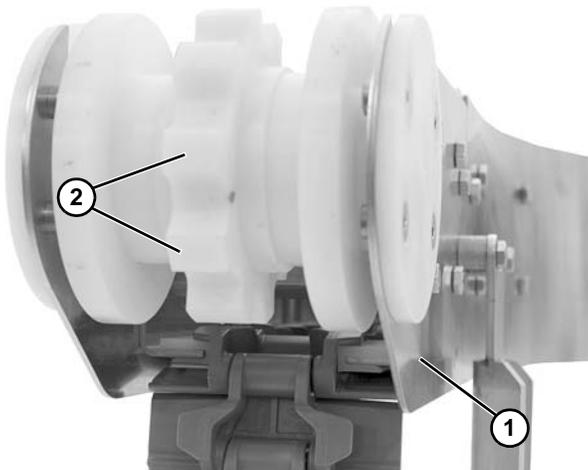

Figure 11
4. Wrap belt from under tail end (**Figure 11, item 1**) and onto cogs (**Figure 11, item 2**) of sprocket.